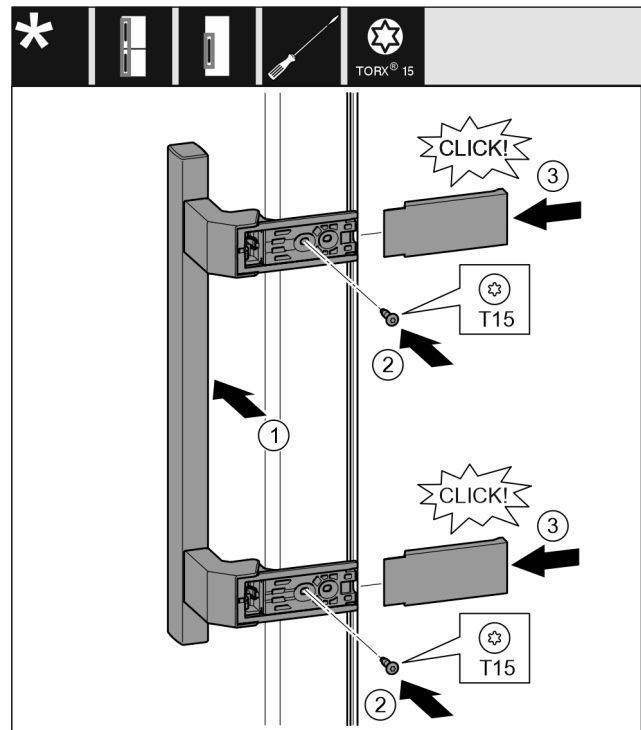

Fig. 19
- ▶ Position the handle on the opposite side. Fig. 19 (1)
- ▶ Tighten the screws using the T15 screwdriver. Fig. 19 (2)
- ▶ Position the covers on the side and push them on. Fig. 19 (3)